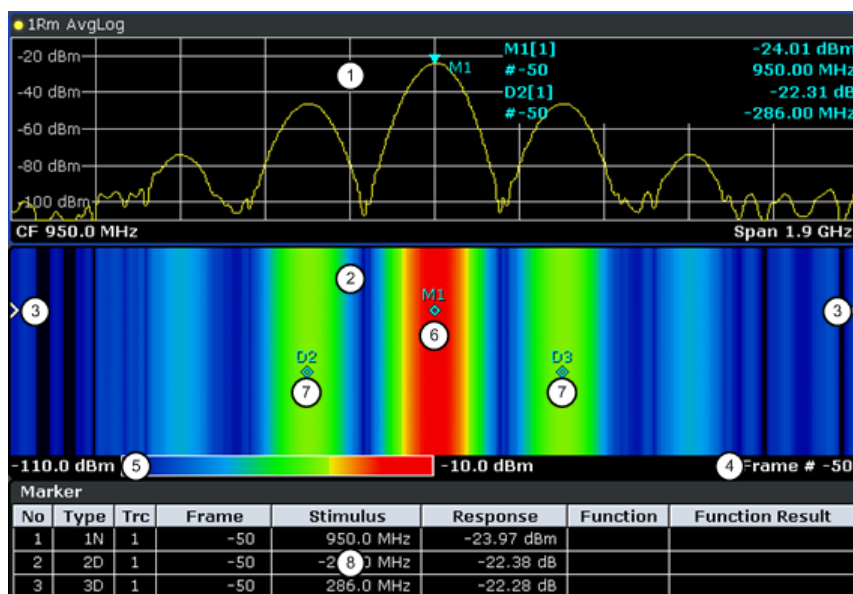

Fig. 3-20: Screen layout of the spectrogram result display
- Spectrum Analyzer result display (1 in figure 3-20)